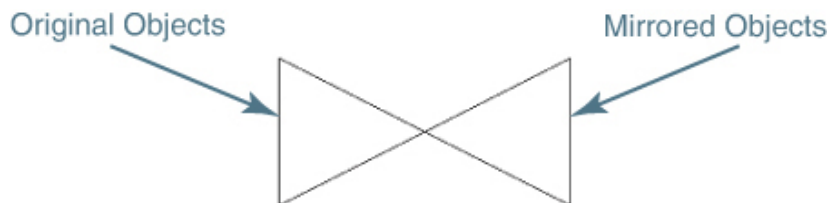

Figure 7-29
After selecting the second point, AutoCAD prompts you to *Erase source objects?* ↓. You have the option of either erasing the originally selected objects, so only the mirrored copies remain, or leaving them in the drawing. The default is *not* to erase the original objects so that you can just press **<Enter>** and end up with the mirrored object *and* the original, as shown in Figure 7-29.
- 8** Press **<Enter>** to accept the default and retain the original triangle so that the drawing looks similar to Figure 7-29.